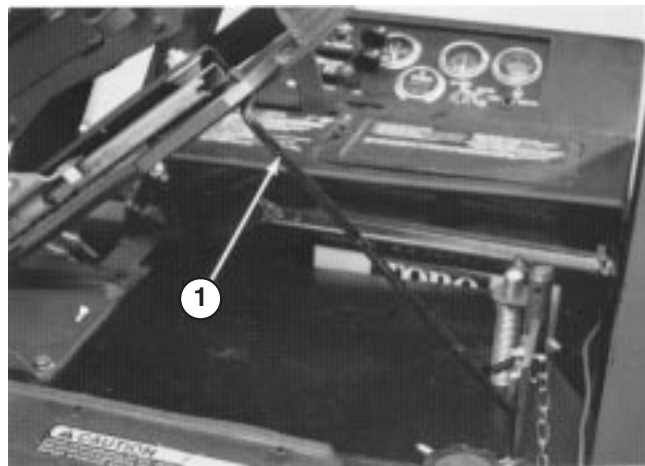

Figure 10
10. Hold seat up with seat support rod (Fig. 10).
- Hold seat up with seat support rod (Fig. 10).